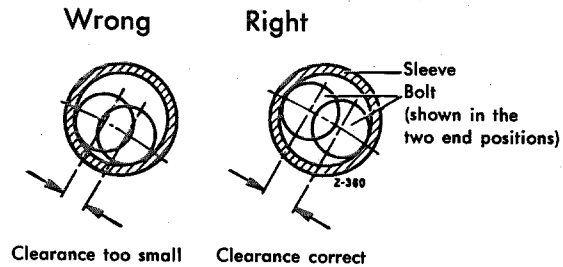

Fig. 42—9/8
If the clearance is too small the reason will probably be that the bolt (4) of the automatic adjustment is bent (see Fig. 42—9/1). As a result the bolt is in an eccentric position
to the adjusting sleeve which as a consequence makes premature contact (Fig. 42—9/8).